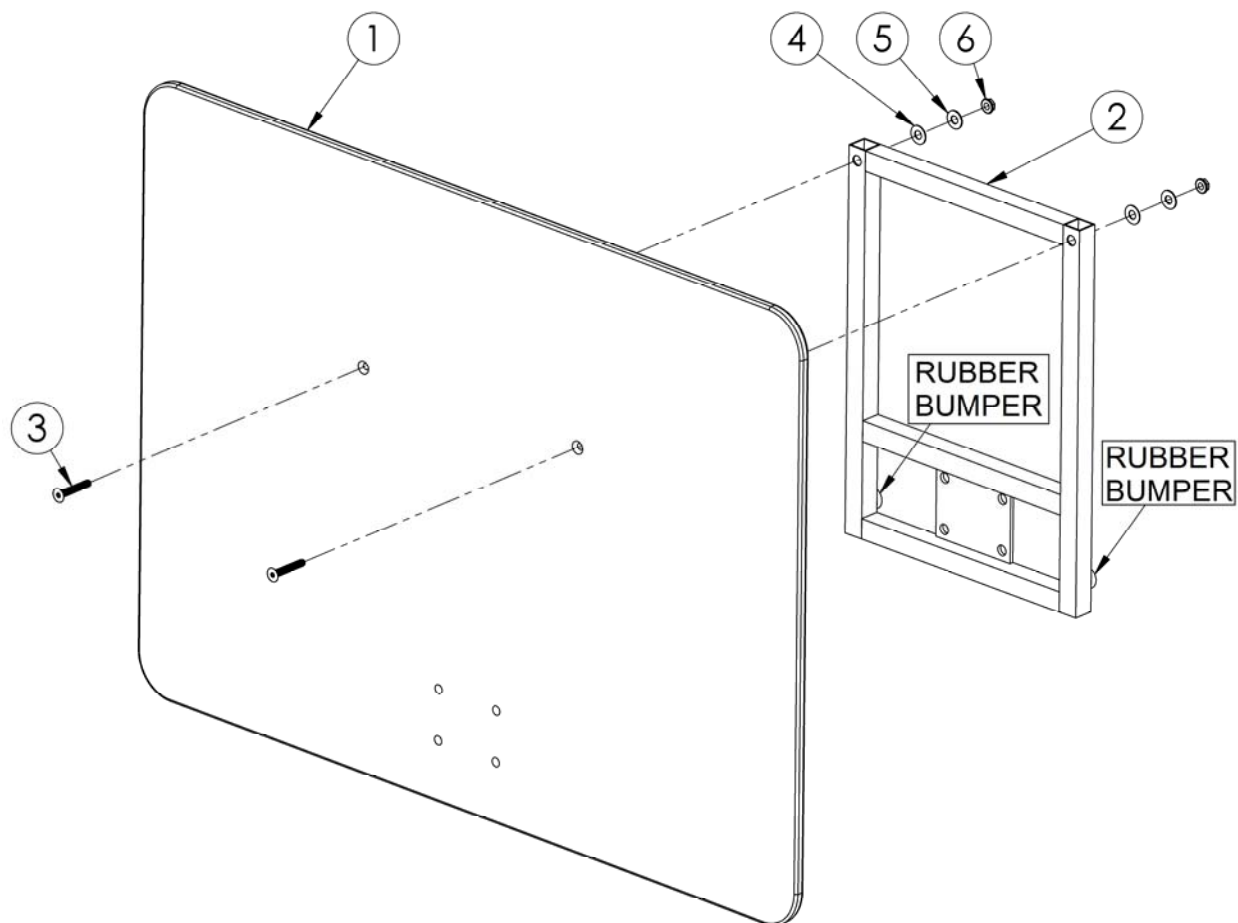

Fig.1
1. Assemble the Acrylic Backboard (1) to the Square Frame (2) with the 5/16"-18 X 2" Flat Socket Head Cap Screw SS (3), 3/8" Nylon Washer (4), 3/8" Flat Washer SS (5), and 5/16"-18 Flanged Nut SS (6), as shown in **FIGURE 1**. **DO NOT SET THE BACKBOARD ON CONCRETE OR OTHER ROUGH SURFACES**. Cardboard from the packaging is a good surface to work on. Do not fully tighten any of the hardware until all parts are assembled.